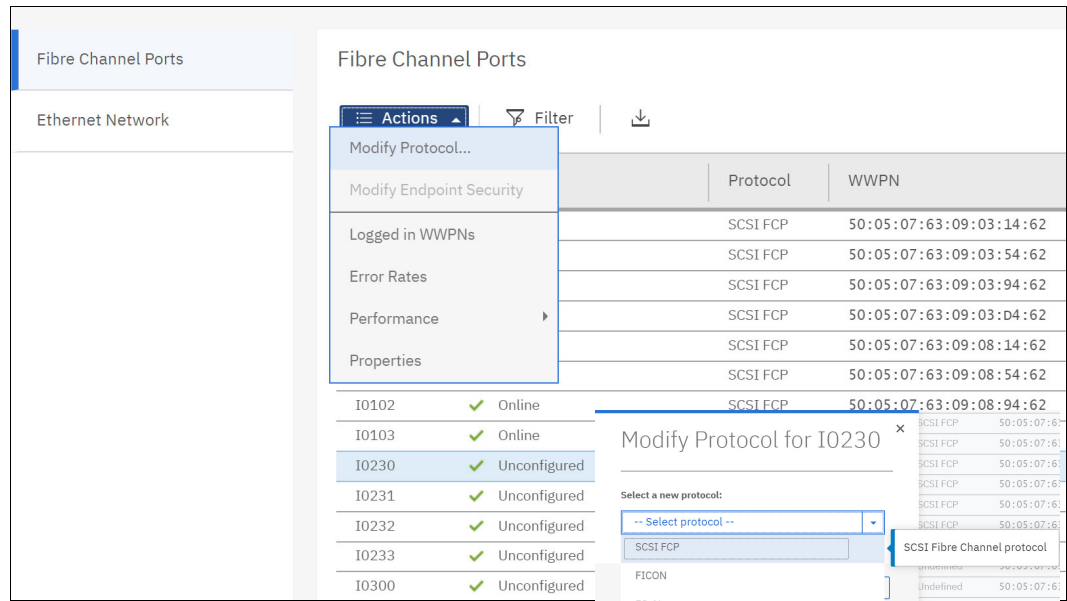

Figure 9-52 Modify Protocol window
- From the Actions tab, click **Modify Protocol** to open the Modify Protocol window, as shown in Figure 9-52.